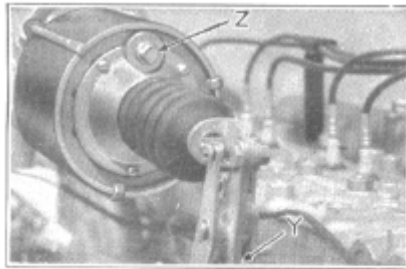

Figure 36
LUBRICATION — Vacumotive Drive linkage connections should be lubricated every 1,000 miles with a few drops of light engine oil. Also apply a few drops in the mounting bracket pivot hole (Y), Fig. 36.